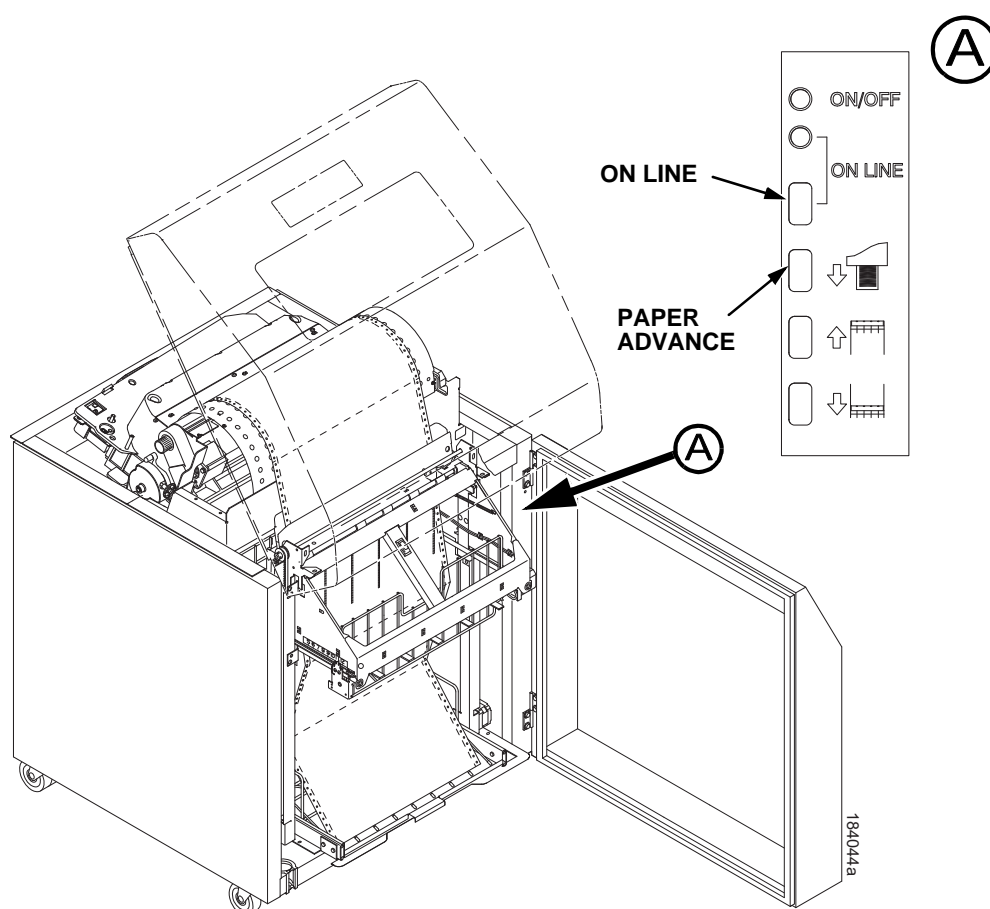

Figure 31. Stacking Paper on the Wire Paper Tent
1. Press the **PAPER ADVANCE** key and hand feed the paper down into the paper throat of the stacker. Continue to advance the paper until it reaches the paper tent (if installed) and feed three to five extra sheets into the stacker. Make sure the paper passes through the paper throat of the stacker. (Figure 31.)
2. Stack the extra pages on top of the wire paper tent (if installed), making sure the paper bends with the natural fold. (Figure 31.)